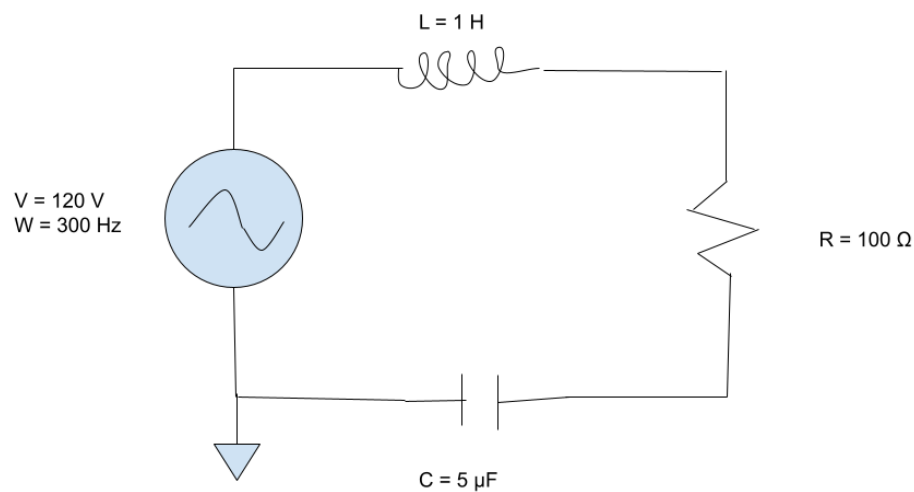

Figure 1: An RLC circuit with an inductor at the top, a capacitor at the bottom, a resistor on the right side, and a voltage source on the left side.
1. Draw and label the circuit schematic. Start this process by including a voltage source on the left side of the paper by drawing a circle with a sine wave in the center. Then draw a closed loop for the circuit by making a line that connects the top side of the voltage source to bottom of the voltage source in a clockwise arc. Make sure to leave enough room for the other circuit components in this closed loop. Then, add a resistor by drawing a “zig zag” on the loop, add an inductor by drawing a “spring” on the loop, and add a capacitor by drawing two parallel lines that are both perpendicular to the loop. Finally, add the corresponding values for each component by labeling the inductance of the inductor in units of Henries, the capacitance of the capacitor in units of Farads, the resistance of the resistor in units of Ohms, the voltage of the AC voltage source in units of volts, and the frequency of the voltage source in units of Hertz [3], [4]. Please see Figure 1 for more information.